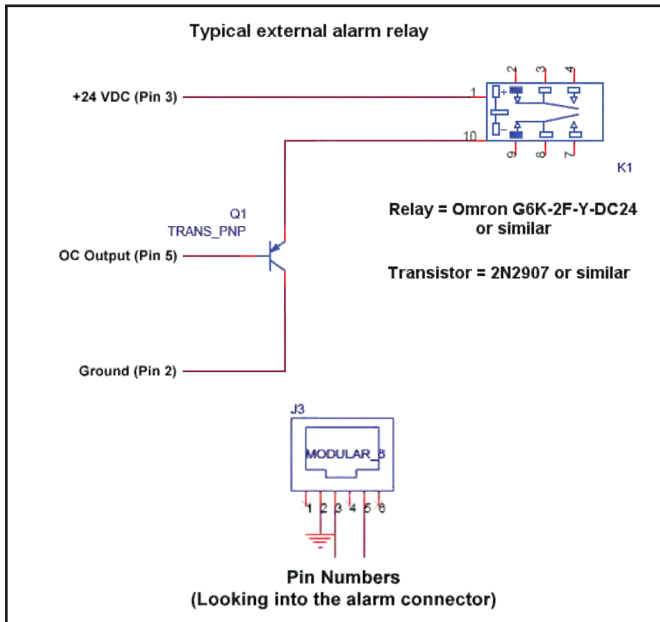

Figure 4. Typical external relay circuit
C. I/O Signal Output: Can be used to output to a light tower. (Relay required, see Figure 4)